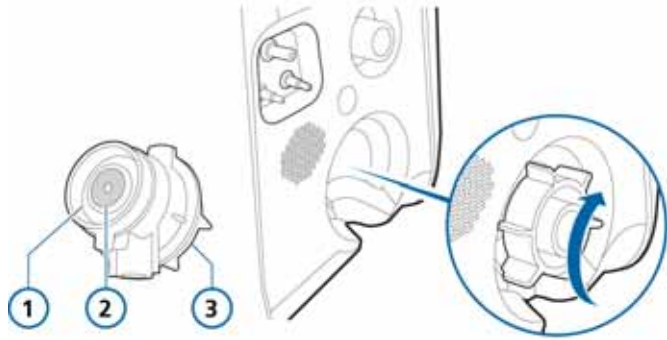

Figure 6-1. Installing the neonatal expiratory valve
1. Holding the expiratory valve housing (Figure 6-1), seat the silicone membrane onto the housing.